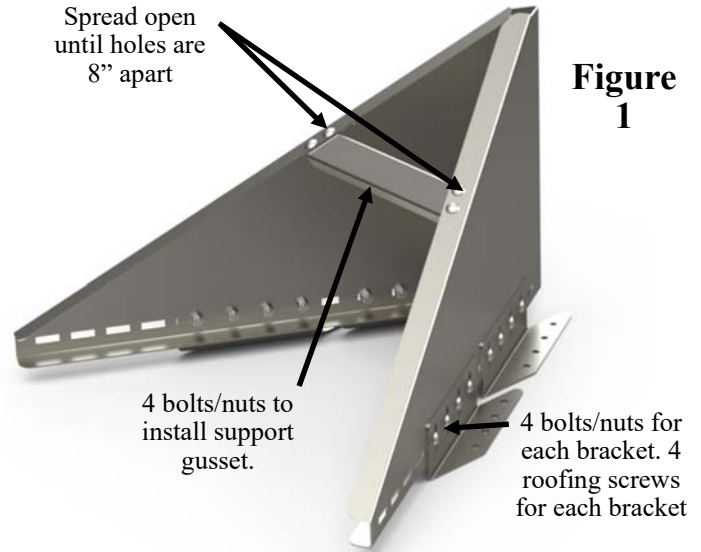

Figure 1
1. Spread open the snow divider until the holes for the support gusset measure about 8" apart. Do not repeatedly open and close the divider as this will weaken the divider. (Figure 1)
2. Using 4 bolts and nuts, attach the support gusset to the face of the divider. The gusset is placed behind the square holes on the face of the divider and the bolts are installed down into the square holes. (Figure 1)